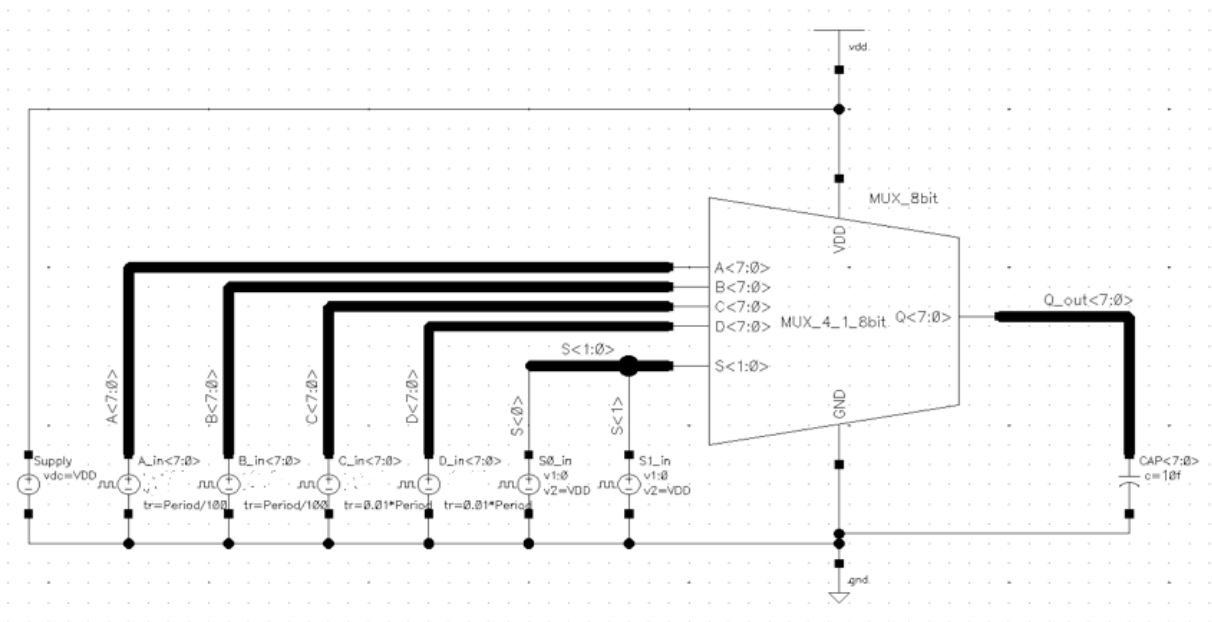

Figure 1 - Schematic View of the Testbench for the 8-bit MUX.
- ✓ Instantiate the symbol of the **MUX_4_1_8bit** that you have already generated in the previous session into the new schematic editor window. Then complete the schematic as shown in Figure 1.
- ✓ For **pulse generators** (**A_in<7:0>**, **B_in<7:0>**, **C_in<7:0>** and **D_in<7:0>**, **S0_in** and **S1_in**, as indicated in Figure 1) use **vpulse** component from **analogLib**. Check that names of the instances correspond to Figure 1, and that the properties correspond to the Table I.
- ✓ Use **Add→ Wire Name** or press **"I"** to place labels accordingly to the input/output signals as shown in Figure 1.
- ① Note from the Table I, that **VDD**, **Vsweep** and **Period** are defined as variables. Numeric values can be set directly here, as we did for **Voltage 1** of the pulse generators which is always equal to zero. We will set the actual numeric values of these variables later, when we launch the circuit simulations.
- ② Variable **Vsweep** will be used to gradually vary the voltage of the input S1, and observe the corresponding output voltage of the inverter within the MUX. This type of simulation is usually called **voltage sweep**.